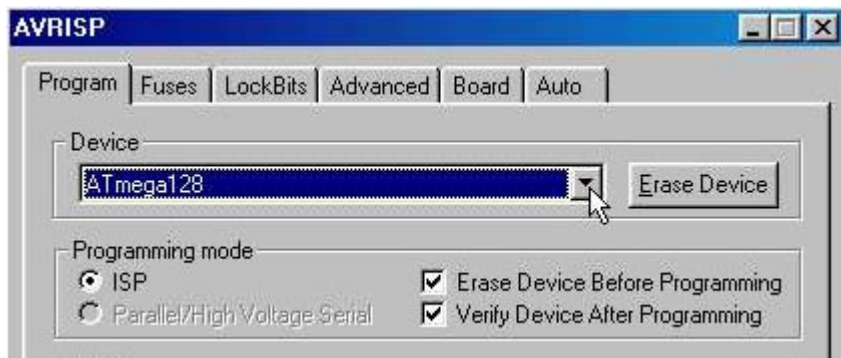

FIGURE B-8: CPU SELECTION USING AVR STUDIO
- D4) Select as CPU ATmega128, like in figure B-8.